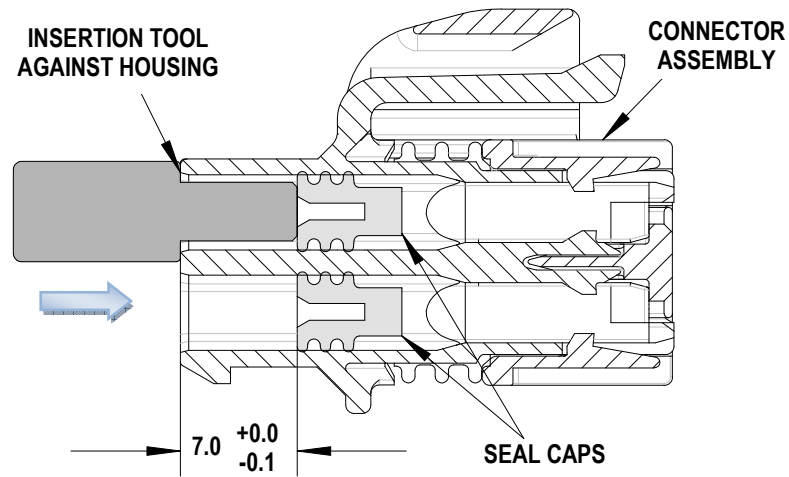

Figure 2
3. The seal should be inserted approximately 7.0  $\pm$ 0.1mm from the opening in the module. See Figure 2.